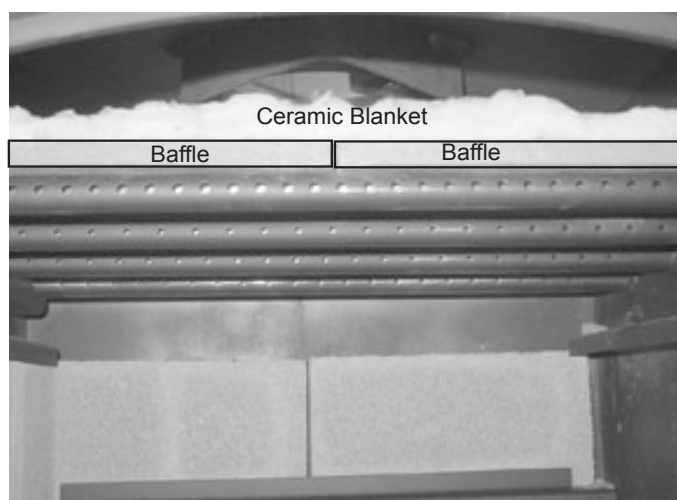

Figure 23.3
5. To re-install the ceramic blanket, it is easier to fold it in half first. Place on top of baffle board, open up and flatten and smooth out the blanket. Re-check the baffle board for correct positioning (**Figure 23.3**).